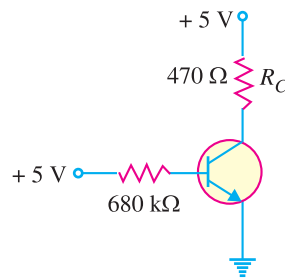

Fig. 8.71
10. Draw the d.c. load line for Fig. 8.71. [The end points of d.c. load line are **10.6 mA** and **5V**]
11. If the collector resistance R_C in Fig. 8.71 is increased to $1\text{ k}\Omega$, what happens to the d.c. load line?